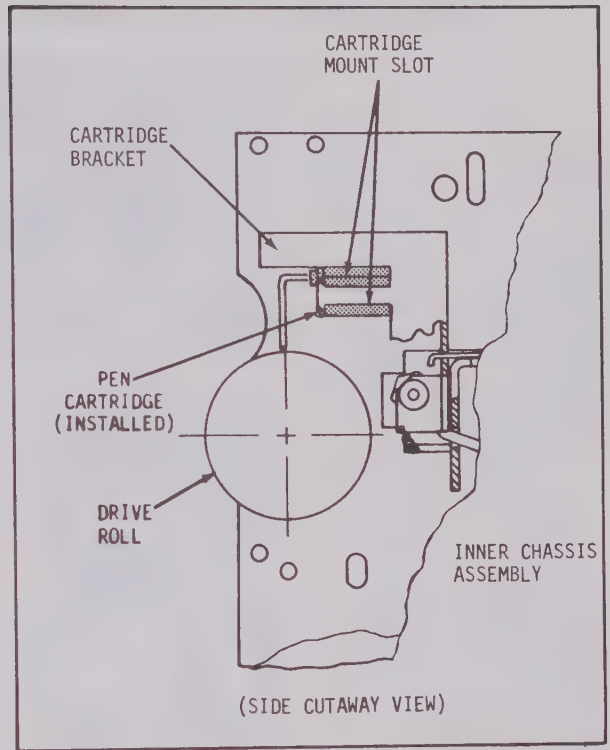

Figure A2-2. Cartridge Installation Diagram.
(4) If an analog pen is not at left end of scale, place finger near rear of analog cartridge holder and move assembly to left end. Position Pen Lift lever so that pen is down on chart.
(5) Select event pen cartridge from accessories and remove small rubber plug from air vent hole in left side of cartridge body. Also remove small rubber cap from tip of pen tube. Retain cap for future use and discard plug.
(6) Holding tube of event pen between thumb and forefinger of right hand with pen tip down, brace holder bracket with fingers of left hand and slide cartridge mount slot over lower bracket arm. Push cartridge all the way back into holder. A side view of the installed cartridge is illustrated in Figure A2-2.
(7) Actuate Pen Lift lever. Both analog and event pens should raise and lower together.